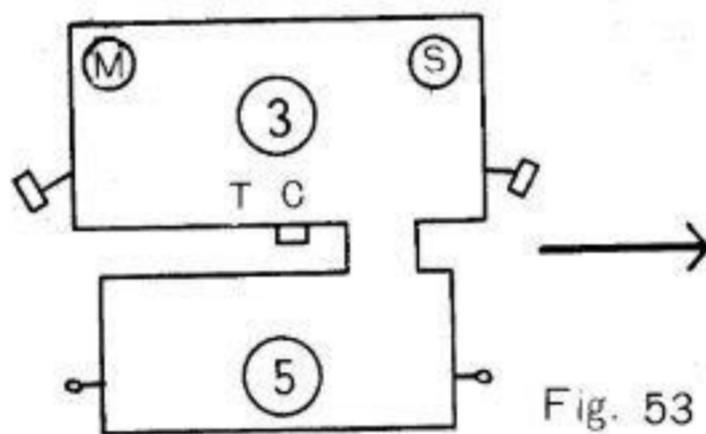

Fig. 53
8. With the both carriages now on the left, couple two carriages together. Set the right hand MAS knob to 'S' on the machine carriage, and on the ribber carriage, turn tension dial to No. 5. (Fig. 53) Move the carriages across needles from left to the right. (Figs. 53 & 54)